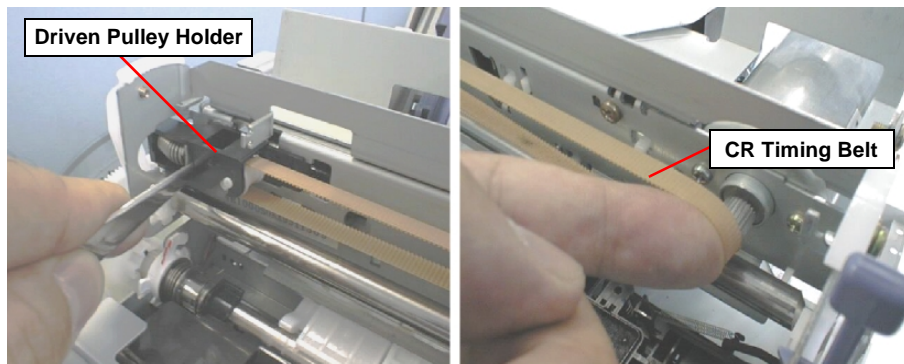

Figure 4-17. Removing the Timing Belt
- 3) Loosen the CR Timing Belt by pushing the Driven Pulley Holder to right with the screw driver and remove the Timing Belt carefully from the pinion gear on the CR motor. Refer to Figure 4-17.